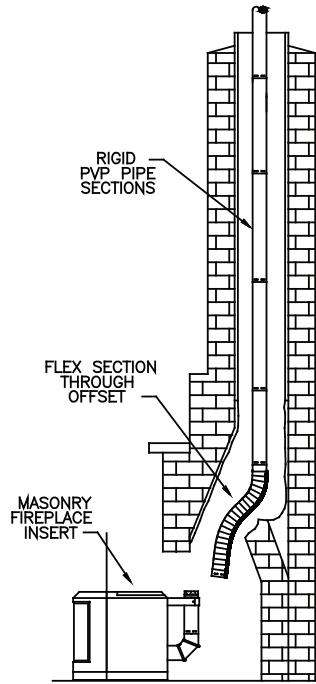

Figure 19
7. Repeat this process for the remainder of the pipe sections, and lower the assembly down the chimney as shown in **(Figure 19)**.